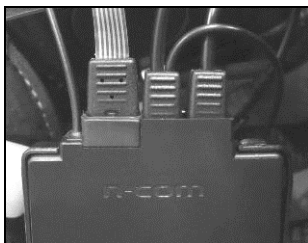

Fig. 35
- Gently position the connector in its seat until it is all the way in (Fig. 35).